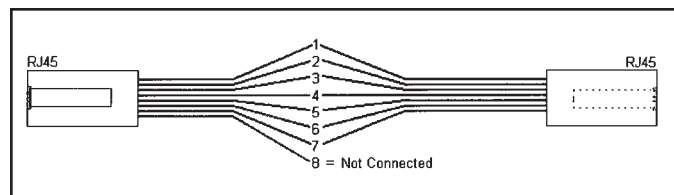

Figure 5. Data Cable
I. If using a TR2000 SmartHub along with the monitor, construct a data output cable. Refer to Figure 5.